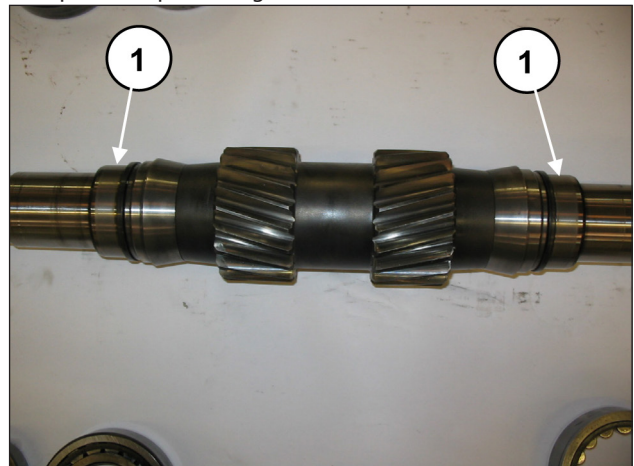

Fig. 53
Onto the PTO shaft, slip on the 2 internal rings of the bearings (one per side) (pos. ①, Fig. 53).